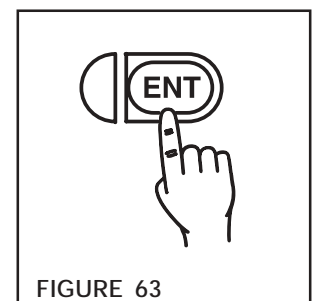

FIGURE 63
4. Press the **ENTER** Key to store the new **FULL SCALE** setting into memory (See Figure 63).